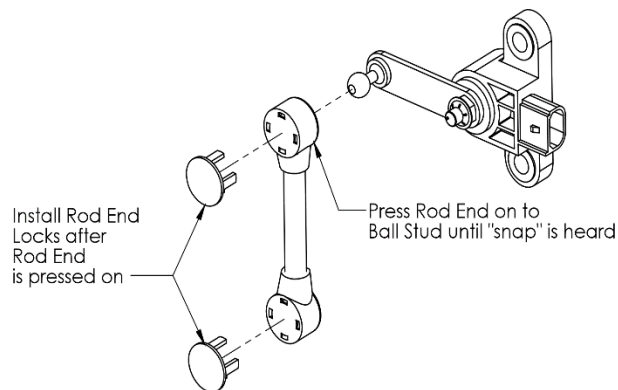

Figure 33. Sensor Plastic Linkage End Installation
8. Snap the Linkage Assembly to the ball stud of the pitman arm bracket and to the ball stud on the Sensor arm. Refer to **Figure 33** or **Figure 34** for detail of linkage.